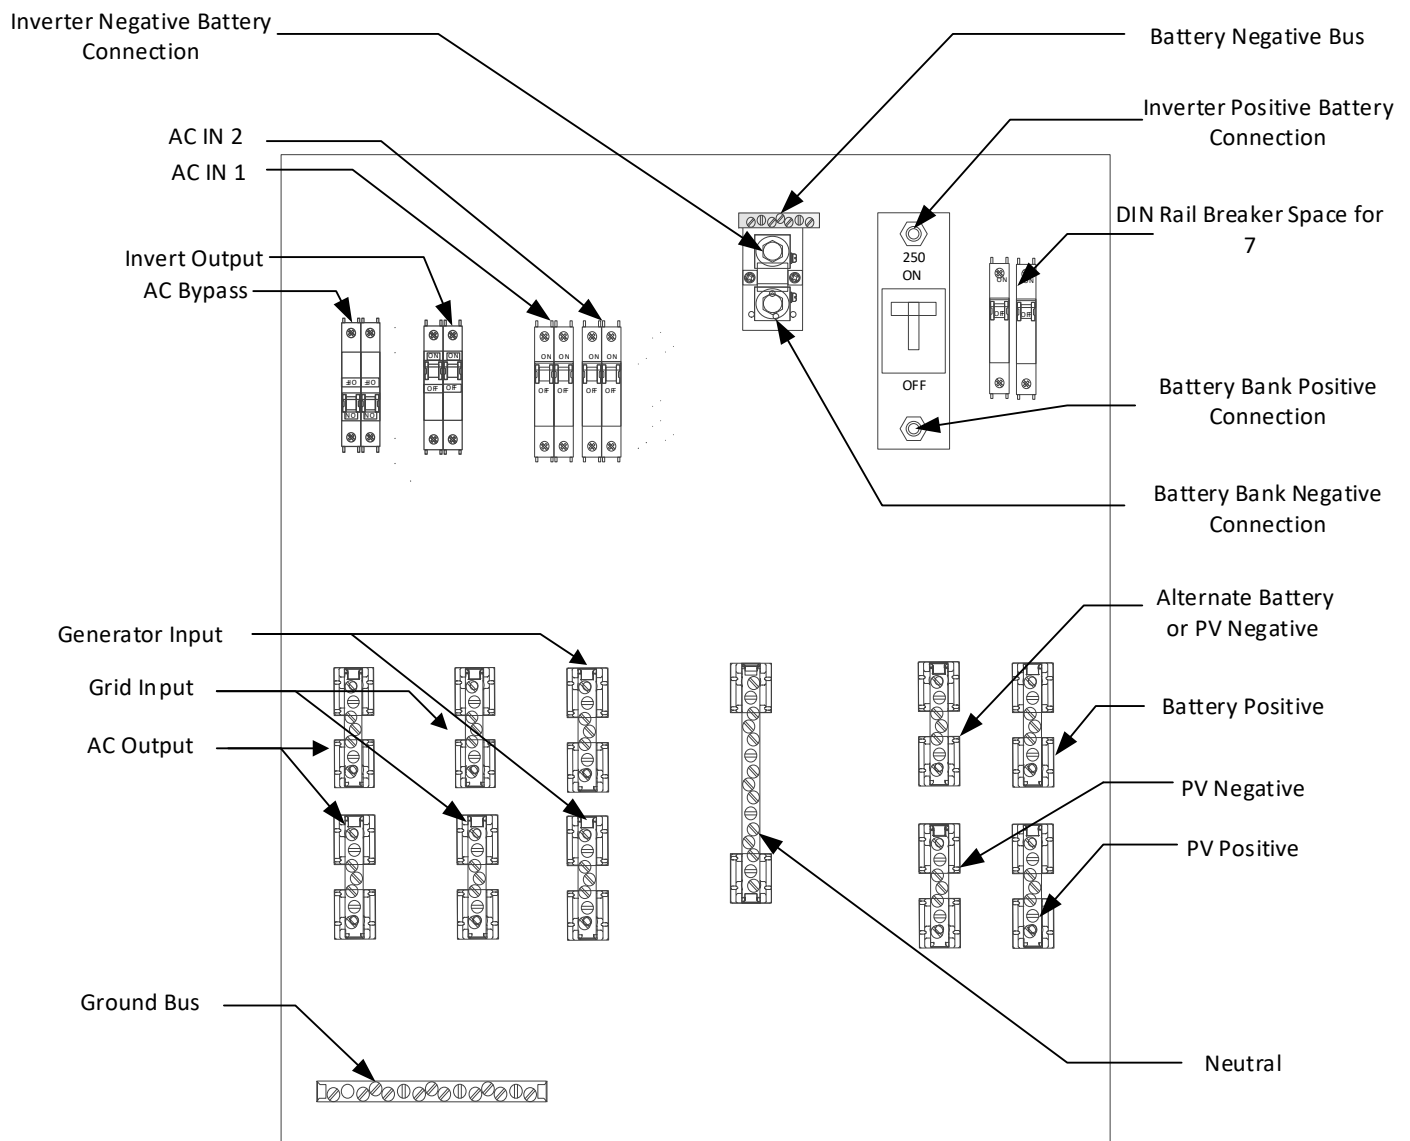

Figure 8-Component Locator
- Diagrams of the AC and DC wiring for the VE Panel Series enclosure are shown in Figures 8 through 13, and are provided to assist you or your system installer.
- Use Figure 8 through 13 to view the DC connection points inside the VE Panel enclosure.
- The battery negative on both the 3kVA and 5kVA version are mounted on bottom of the shunt shown in the Component Locator in Figure 8.
- An optional Negative Battery busbar can be placed in the 5kVA model referenced in Component Locator Figure 8.
- The battery positive on both the 3kVA and 5kVA models are mounted on the bottom of the inverter/charger 250A circuit breaker shown in the Component Locator Figure 8.